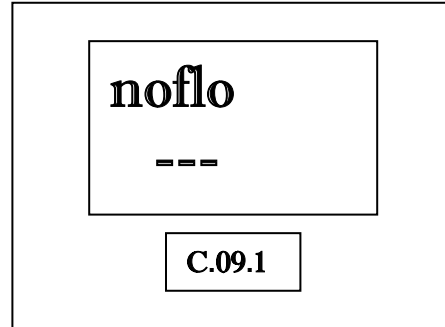

Figure 13
1. After the Manager's Mode has been accessed, press the 9 button and then the **MODE** button on the keypad. The default is infinite time. The PPV display shows the dispenser is in Menu Code 9. See Figure 13.